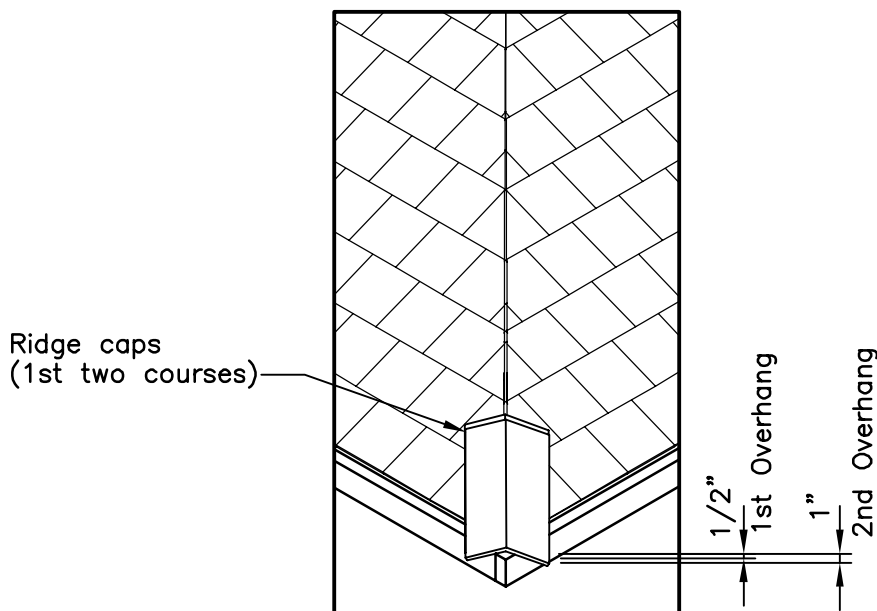

FIGURE S33
- Ridge caps are applied on the same basis as the shingles. The 1st two courses of the ridge caps will overlap; however, each course will overhang the shingles by $\frac{1}{2}$ inch. See Figure S33 for proper overhang.